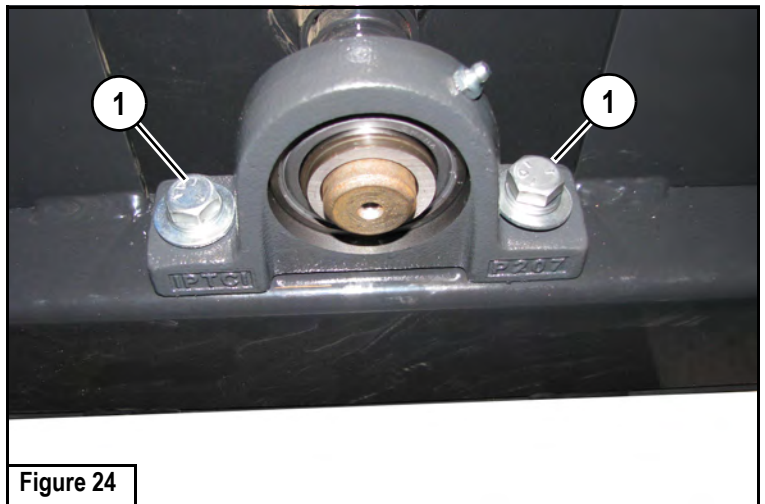

Figure 24
23. Install and tighten the bearing mount bolts (Item 1). **[Figure 24]**